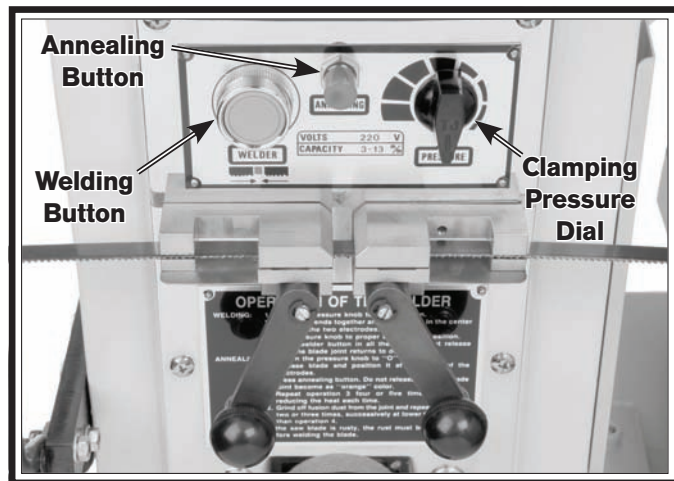

Figure 33. Blade ends in correct position for welding.
8. Place the other blade end in the opposite welding clamp and position it so that it evenly butts up against the opposing blade end, then lock it in place by rotating the lock lever all the way up, as shown in **Figure 33**.